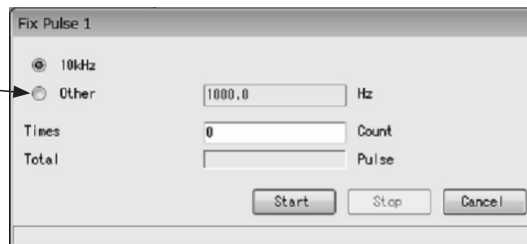

Fig.131
- ① Click the "Diag/Service (T)" menu, and then select and click "Fix Pulse" from the "Loop Test" drop-down list.
- ② The following window will be displayed (Fig. 131). Select the simulated output value and click the "Start" button. To pick another pulse frequency to output, select "Other" and click the "Start" button after inputting the pulse frequency.
- ③ "Times" in Fig. 131 can be used to set any output time, and the system will output until the set time (the output time "Times" is equivalent to "Count" times 10.24 ms). "Total" is used to display the number of output pulses when a fixed number of output executions is reached.
Click the "Cancel" button to return to the window shown in Fig. 131.
- ⑦ Clicking the "OK" button would return the interface to the window shown in Fig. 131, so click the "Cancel" button to exit "Fix Pulse".